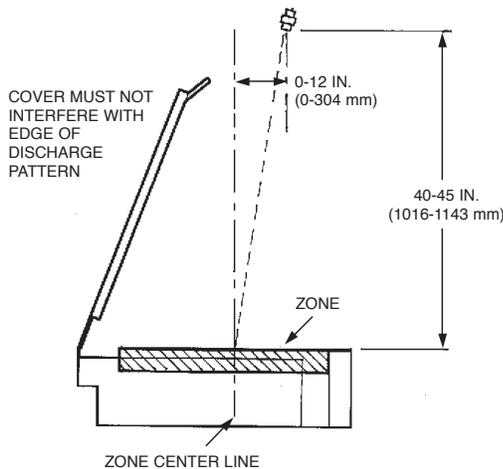

FIGURE 4-113
* See Figure 4-113 for nozzle location